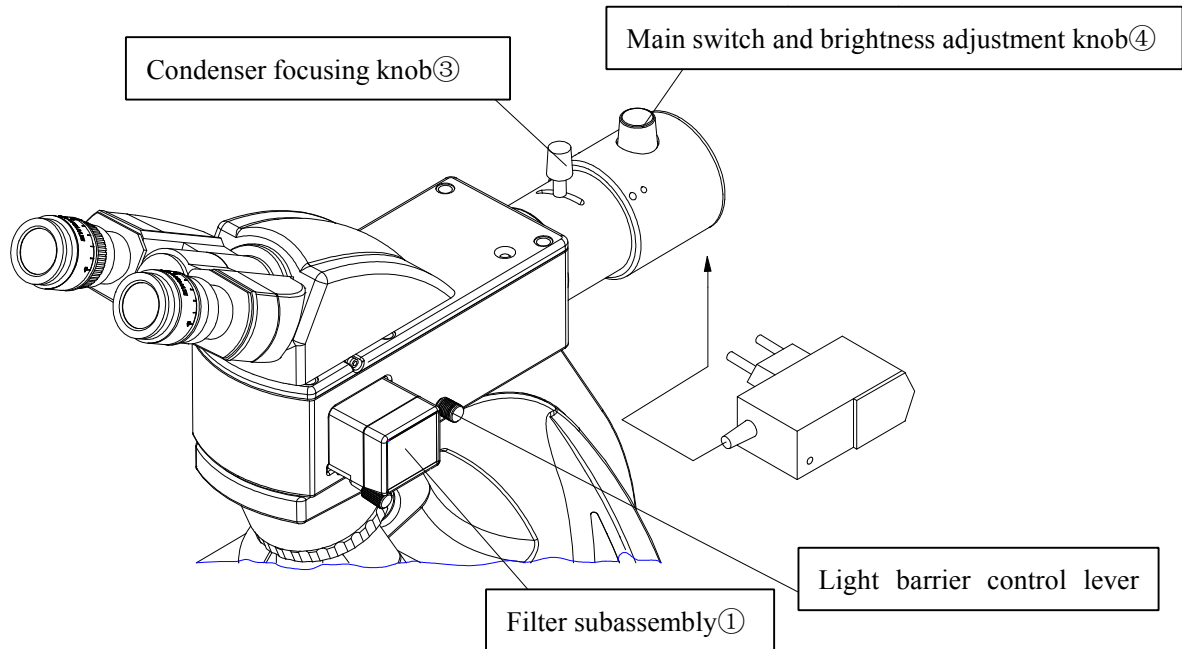

Fig.4
3.2 Fluorescent Microscope Operation (Fig.4, Fig.5)